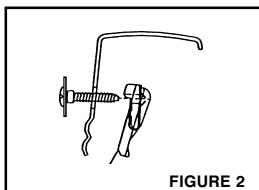

FIGURE 2
3. Position "Liner-Lok™" fastener with side "A" towards screw tip (see FIGURE 2).